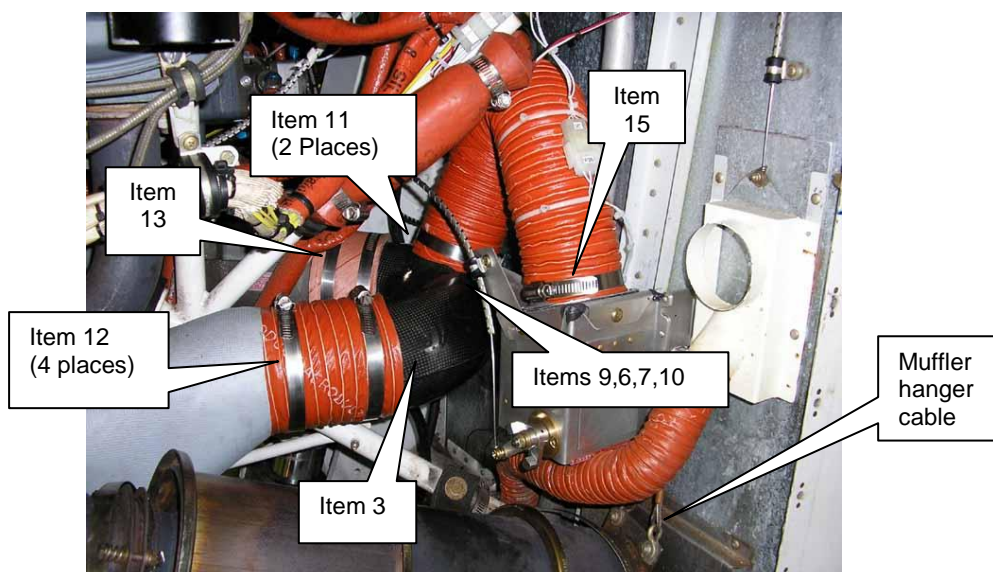

Figure 3
- Fit the new airbox trunk to the injector with hose, P/N LW-15569 (the cut out in hose LW-15569 goes over the injector inlet). Fit the other end of trunk to the air filter assembly with scat 16 hose. Refer to Figure 3.